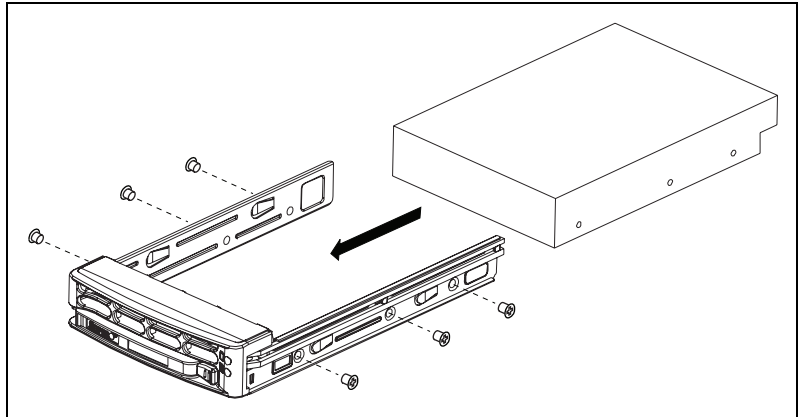

Figure B-27. Sliding Hard Disk Drive into SCA Drive Tray
4. Slide a hard disk drive into the SCA drive tray. Secure the drive to the tray with three screws on each side of the tray, as shown in Figure B-27.